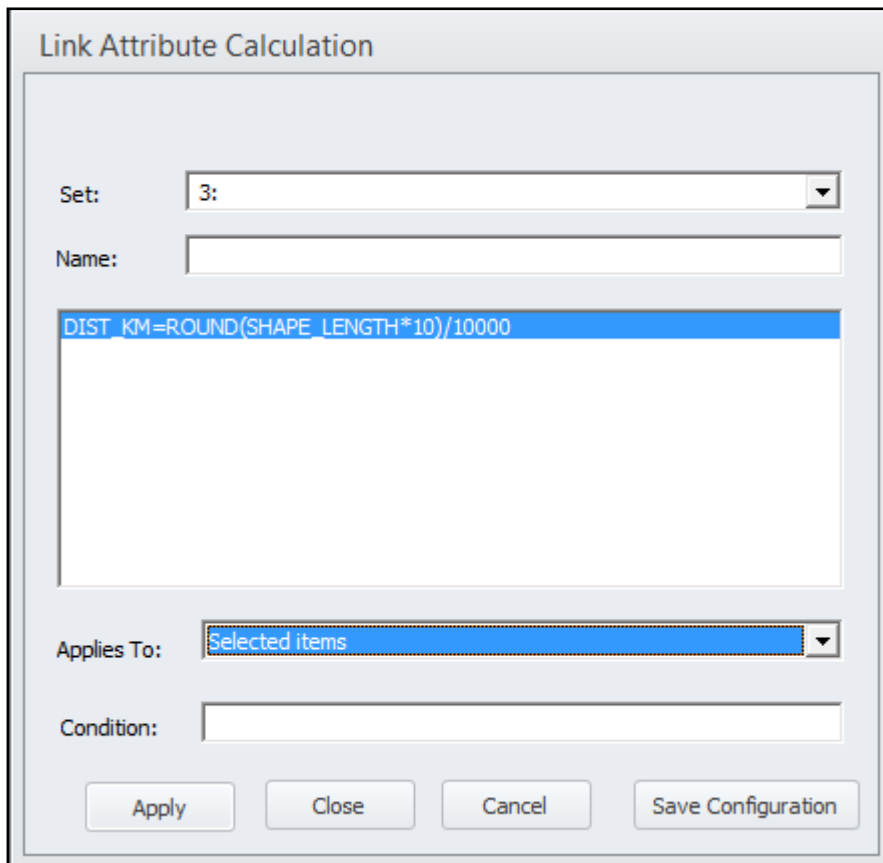

Figure 86 The Link Attribute Calculation window
- p) DIST_KM: update using the SHAPE_LENGTH value using Link -> Compute tool as displayed in Figure 86 (note that "Selected items" must be selected in the "Applies To:" field).